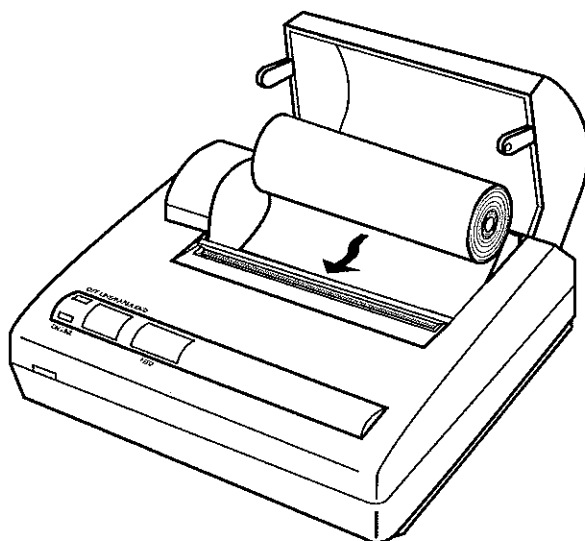
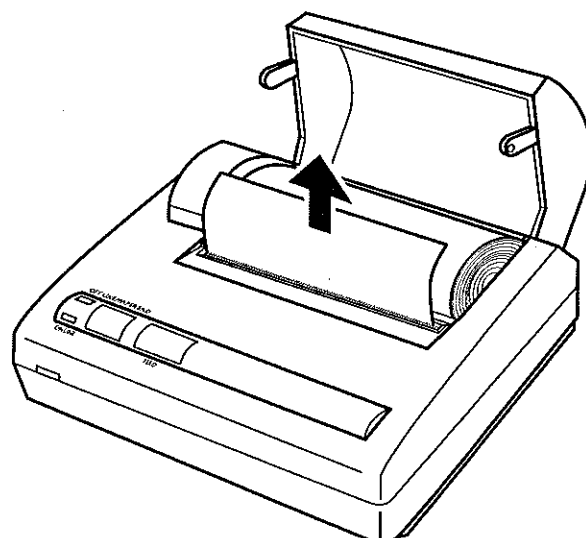

Fig. 11-3
Fig. 11-4
c) Insert the end of the printer paper into the printer as shown in Fig. 11-3. The printer paper will automatically feed, about 10 cm of paper from the paper outlet (Fig. 11-4).